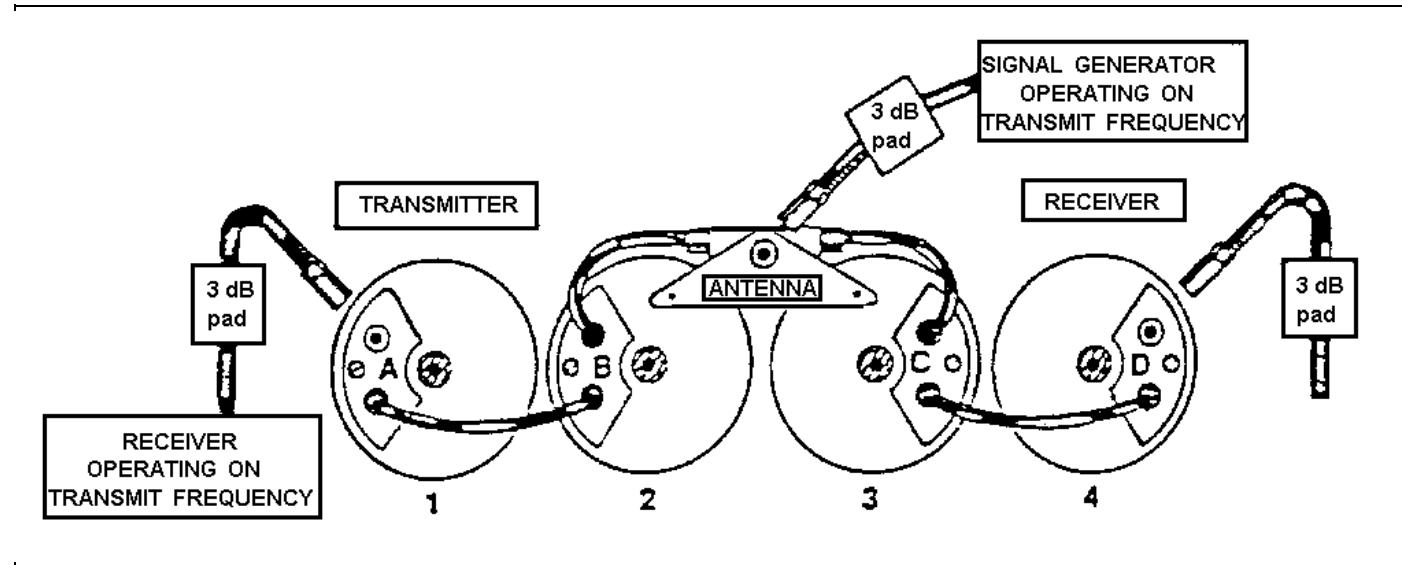

Figure 9
- 15. Connect the equipment to the duplexer as shown in Figure 9.